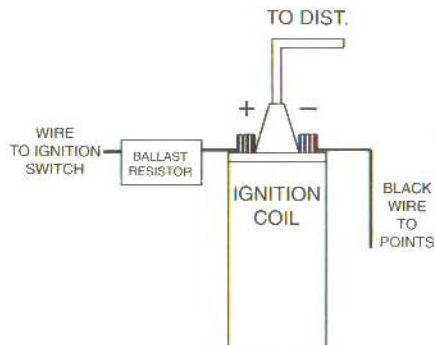

FIGURE 2
5. The **red** wire from the *Ignitor* must be connected to the **positive (+)** side of the coil, or a 12 volt switching power source. The black wire must be connected to the negative (-) side of the coil. (See Figure 2 & 3).
13. For installations that do not use a primary ballast resistor, connect the *Ignitor* red wire to the positive (+) side of the ignition coil. (See Figure 2).